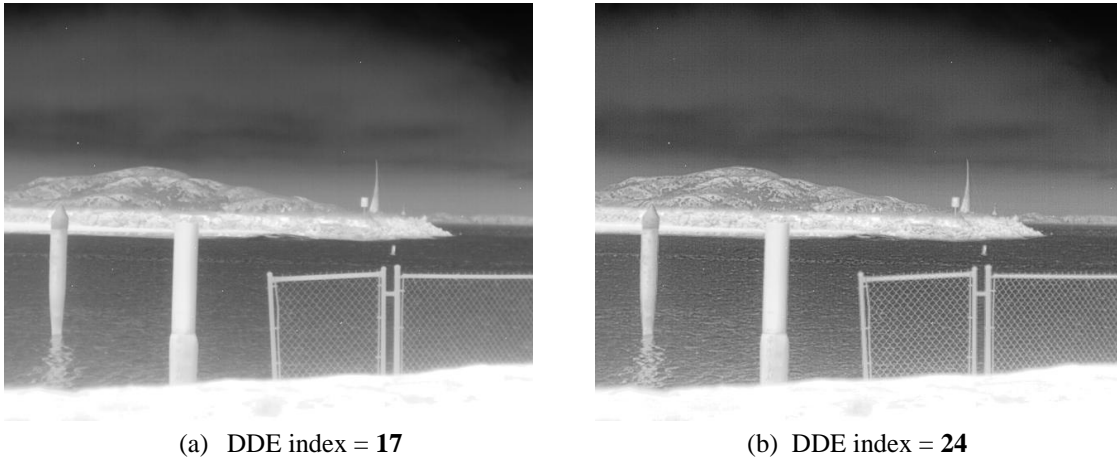

Figure 5: Illustration of Detail Enhancement with DDE
- **Dynamic mode:** DDE parameters are computed automatically based on scene contents. DDE index (which supplants the spatial-threshold parameter used in the manual algorithm) is the only controlling parameter and ranges from 0 to 63, with higher values representing higher degrees of detail enhancement. If no enhancement is desired, the value should be set to 17. Values less than 17 soften the image and filter fixed pattern noise, as exemplified in Figure 4. Values greater than 17 sharpen the details in the image, as shown in Figure 5.